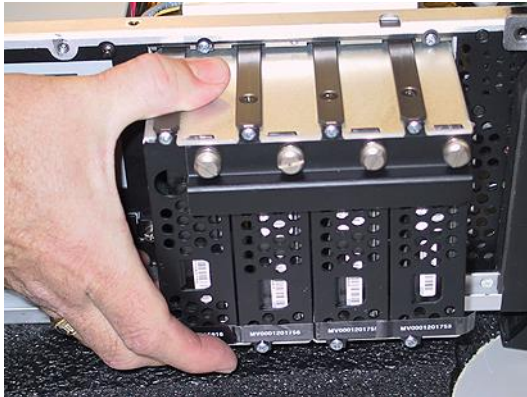

Figure 5-65
- 2) Gently pull on the magazine handle to extract the magazine from the inner chassis (Figure 5-65).